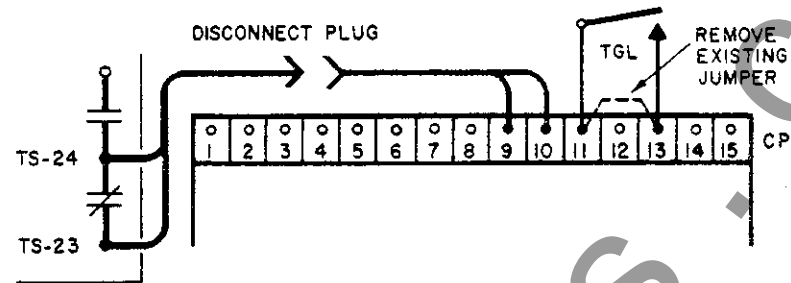

Figure 13. Optional Accessory 6A
**Acc. 6A** Reset switch to manually retransfer the automatic transfer switch to the normal source. See Figure 13.